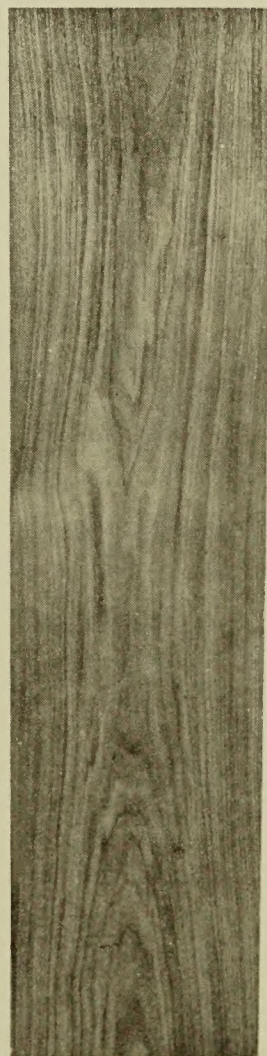

Fig. 5
Half-round (Fig. 5) (about the same as sliced, shows slightly more heart character as it is produced on a lathe—off center):—
- (a) Plain longwood (graded and certified). (Fig. 5).